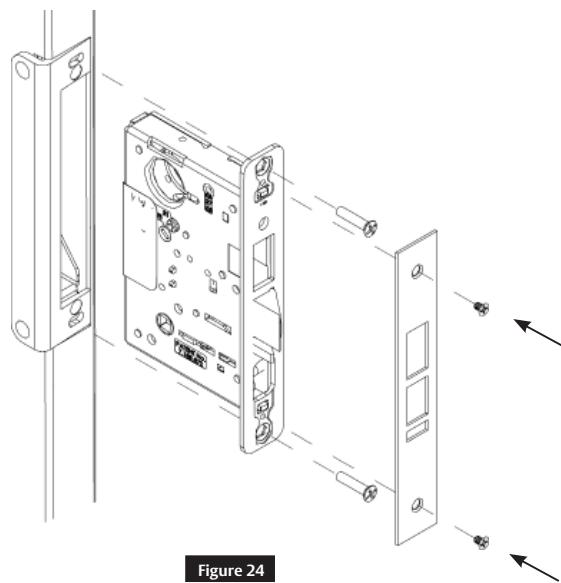

Figure 24
- Install the mortise lock, two (2) #12-24 x1" flat head mounting screws, outside front, and two (2) #8-32 x1/4" flat head screws. (Figure 24)